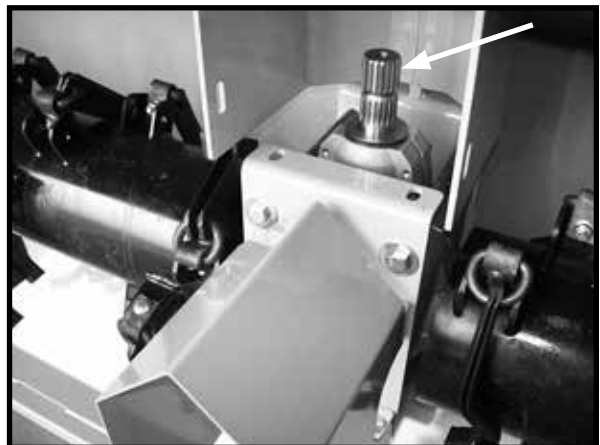

Figure 53. Gearbox Input Shaft
3. Install PTO driveline by sliding the yoke with the slip clutch over the input shaft (Figure 53).